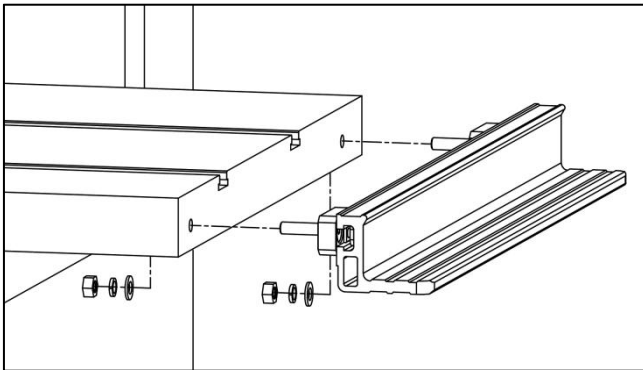
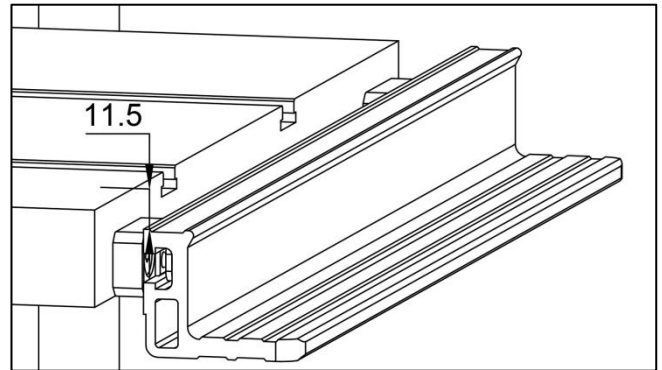

Fig. 12
Fig. 13
2. Secure the Rear Rail to the rear face of the table as shown in Fig. 12. The overall installation result is shown in Fig. 13.